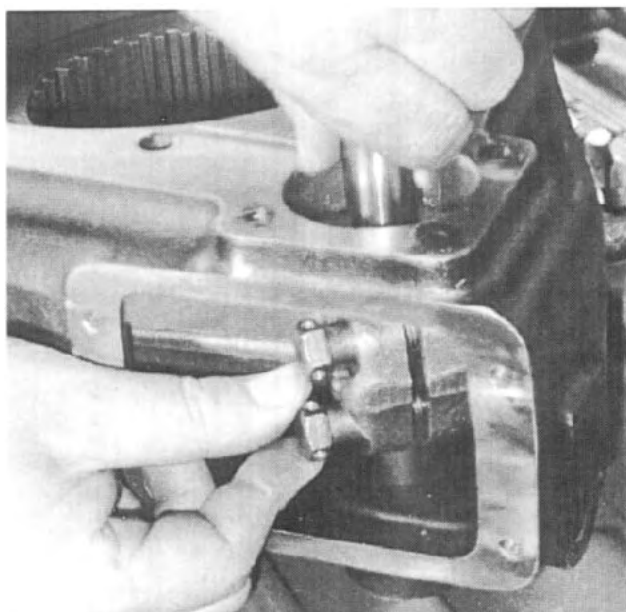

Fig. 78
19. Install the front drive shifter shaft into the declutch housing, attaching it to the front declutch shift fork with two (2) special 7/16-20 bolts. See Fig. 78.